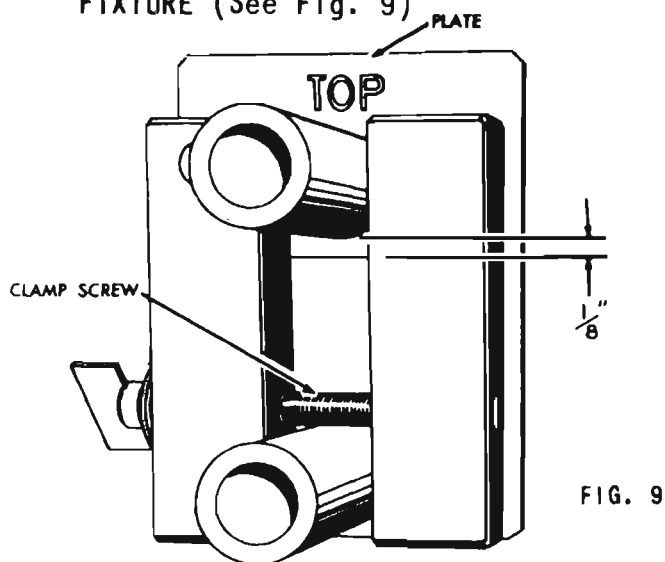

FIG. 9
A. ASSEMBLING PISTON PINS IN SETTING FIXTURE (See Fig. 9)